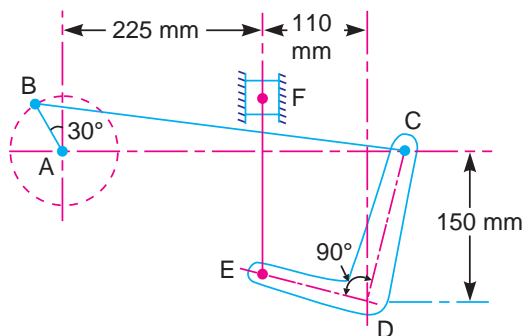

Fig. 7.33
3. The dimensions of various links in a mechanism, as shown in Fig. 7.33, are as follows :